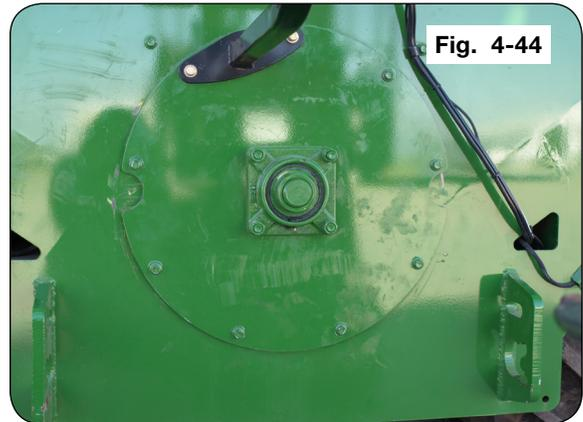

Fig. 4-44
36. Insert hardware for rear auger cover. Tighten and torque hardware to specification. (Fig. 4-44 and 4-45)
38. Torque all hardware to specification. See “Torque Chart” in this section. (Figs. 4-44 and 4-45)